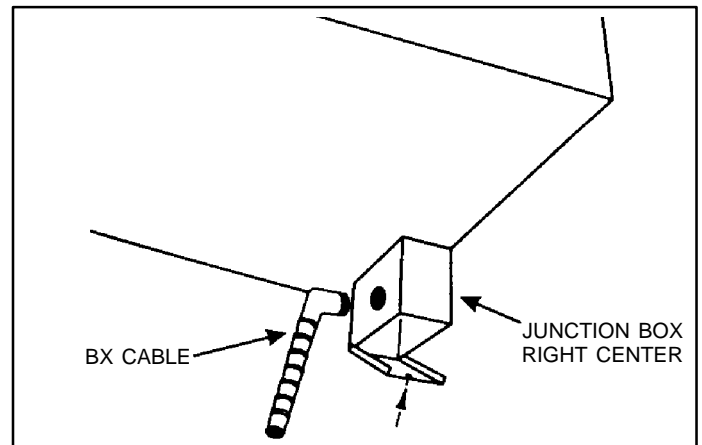

FIGURE 1
5. Remove attachment screw and cover from junction box. Connect BX cable to knockout on side of the junction box. Make wire connections, push wires into junction box. Re-attach cover. Consult local codes for proper power hookup (figure 1).